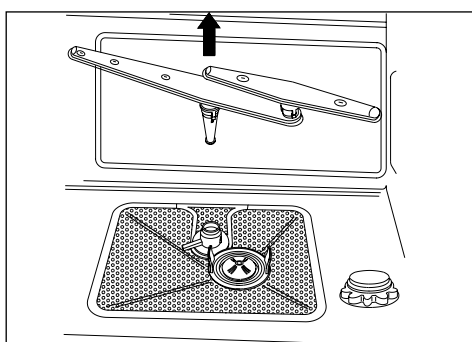

fig. 15
- Take out the lower spray arm by pulling it vertically upwards (see fig. 15). Rinse the spray arms clean under the tap. Put the spray arms back in the reverse order after cleaning.